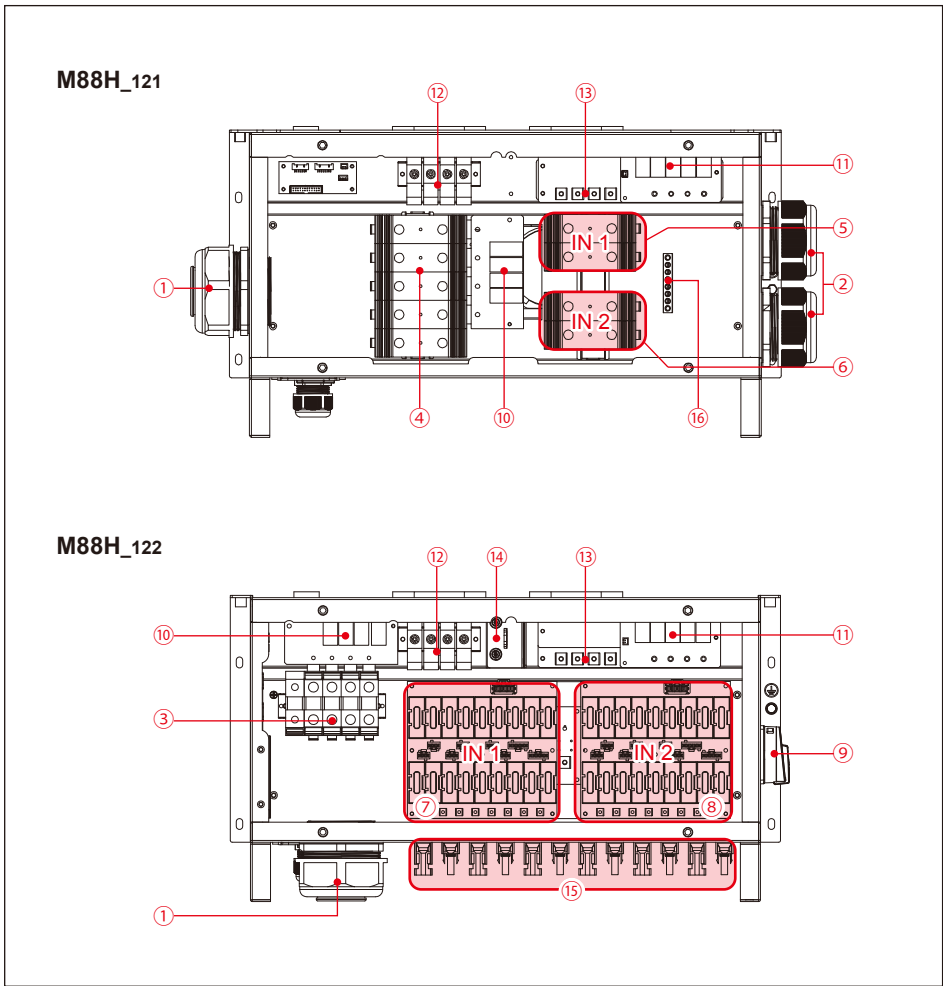

Figure 2-4 : Wiring box layout of M88H
**Figure 2-4** illustrates the layout of wiring box of M88H and the table (**Table 2-3**) along with this layout describes the detail of each area.